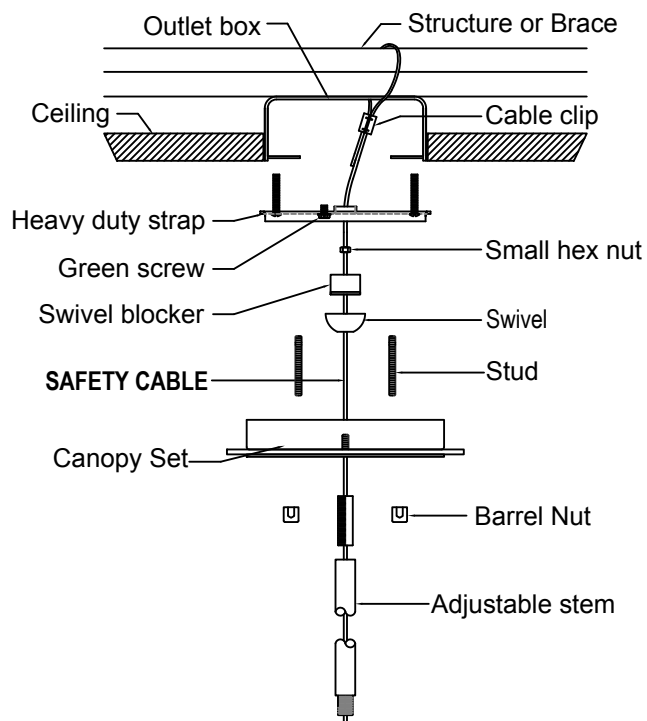

FIGURE-1
1. Attach the **SAFETY CABLE** to the building structure or brace (The green screw should face down) (See figure-1).